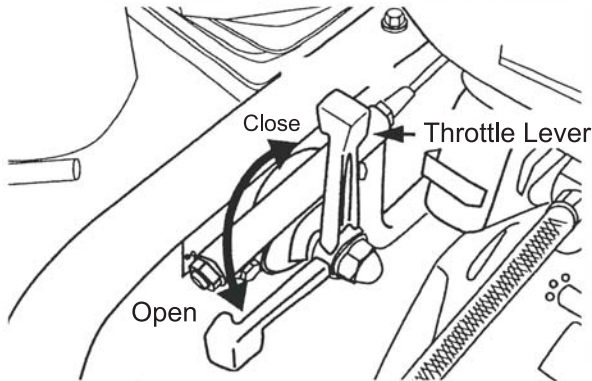

Figure 9. Throttle Lever (Full Open)
1. To start the rammer tamping action, move the throttle lever (Figure 9) quickly from **IDLE** (close) to the **FULL OPEN** position. **DO NOT** move the throttle lever slowly as this may cause damage to the clutch or spring.